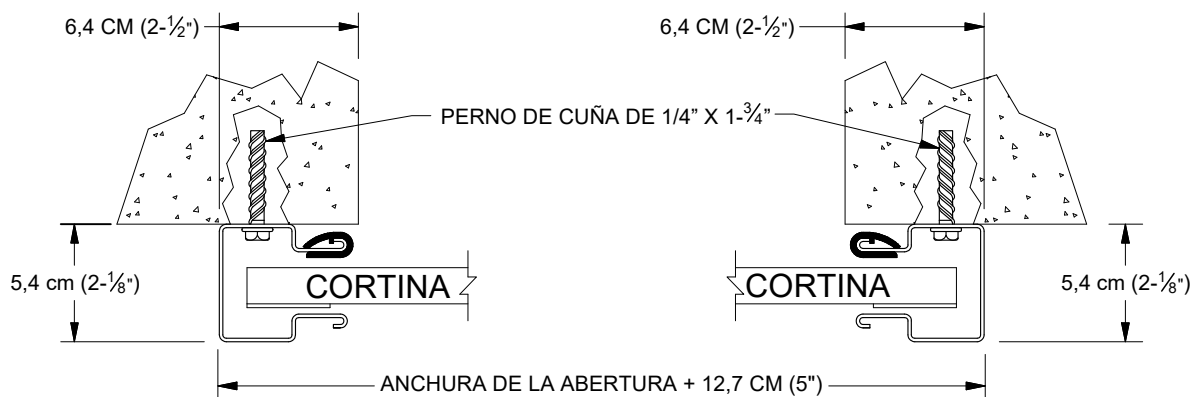

FIGURA 9: JAMBAS DE CONCRETO Y
- ▶ **JAMBAS DE MAMPOSTERÍA:** PERNO DE CUÑA DE $\frac{1}{4}$ " X 1- $\frac{3}{4}$ ". VEA LA PÁGINA 9 FIGURA 9.